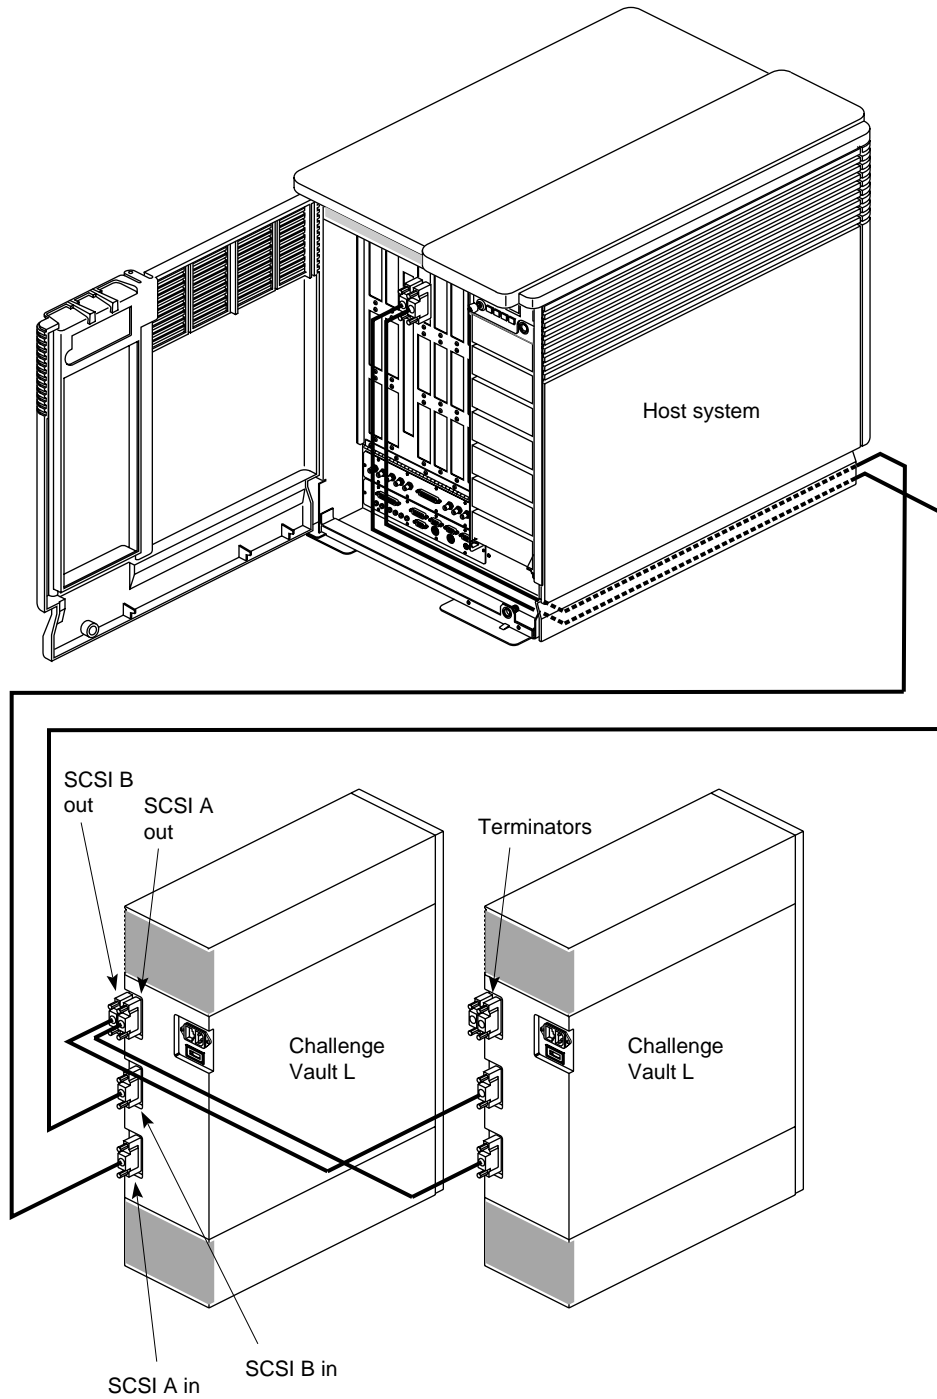

Figure 3-5 Connecting the Vault L Storage Box to the Host System
4. Attach one end of the external 68-pin 50-foot cable SCSI cable (P/N 9290053) to the A or B connector, as shown in Figure 3-5.